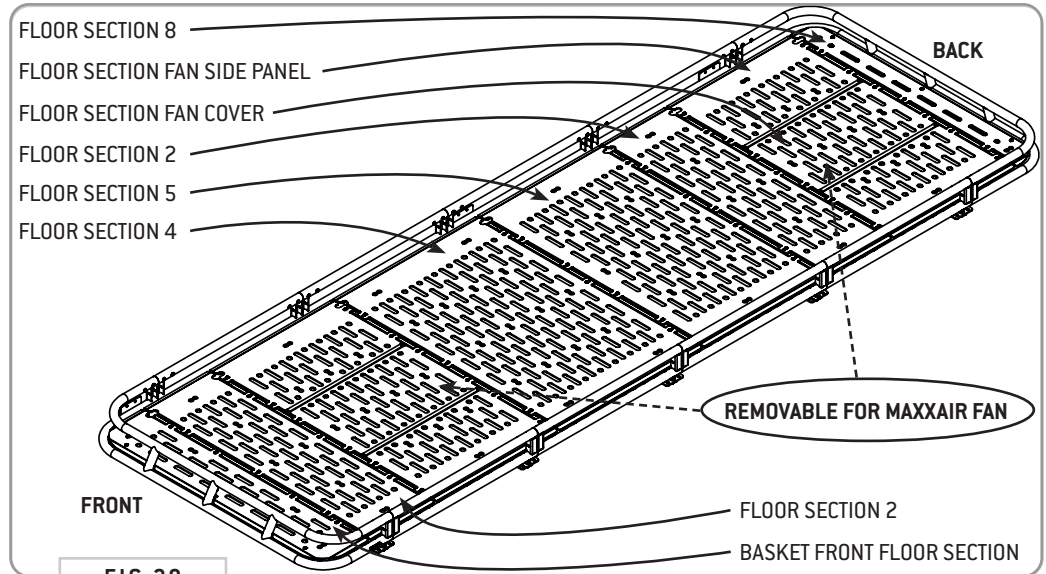
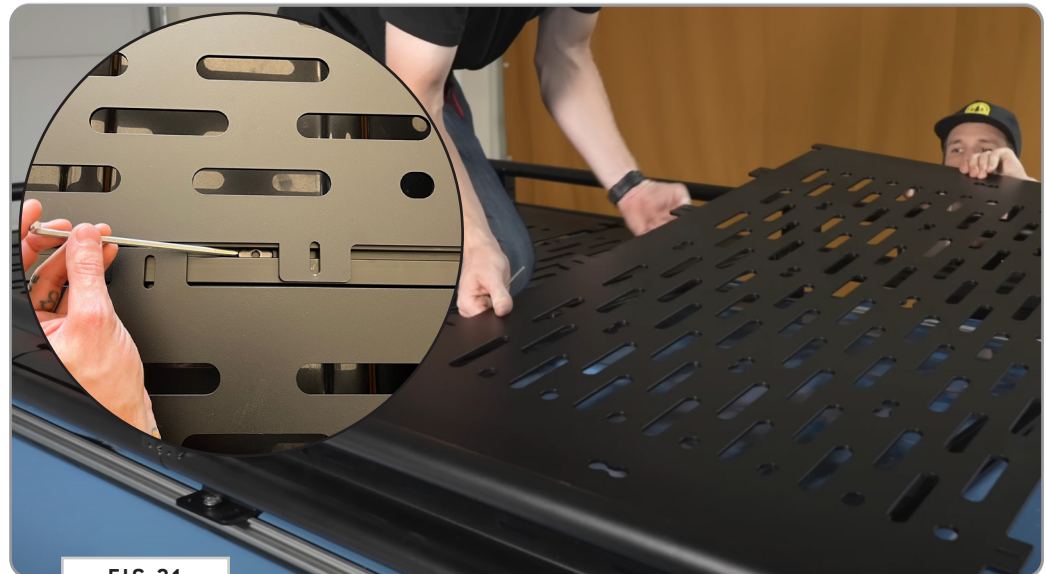

FIG 20
FIG 21
8.1 Install Floor Panels: Begin to layout your **Decking Panels** along the locations shown in **FIG 20**. Adjust the **T-Nuts** as necessary to line up with the available **pill slots** of the **Decking Panels** (**FIG 21**).